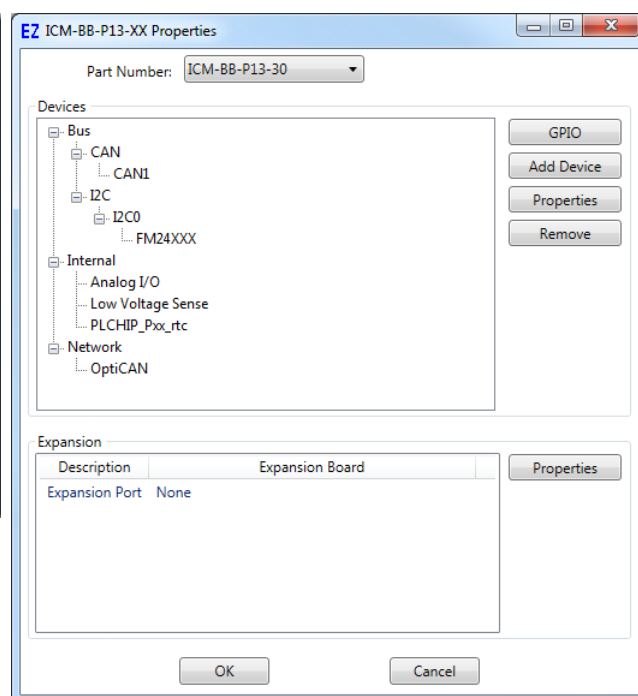

Figure 2-3 - Target Properties
3. Using the Drop-down Part Number select box, select the model of the ICM-BB-P13-XX. Refer to Figure 2-3. With the model selected, the Devices pane will update with the currently selected features for the ICM-BB-P13-XX.